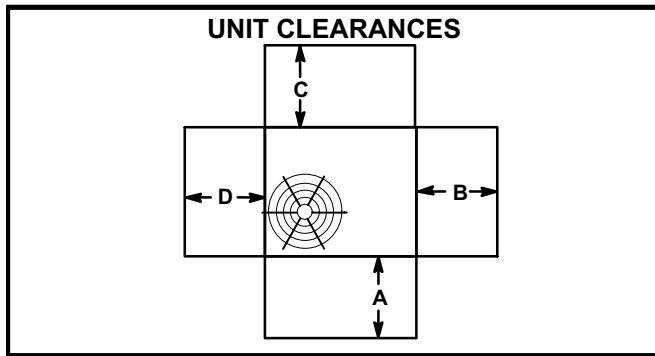

FIGURE 1
See figure 1 for unit clearances.
- 1- Specified installation clearances must be maintained when installing units. Refer to figure 1.